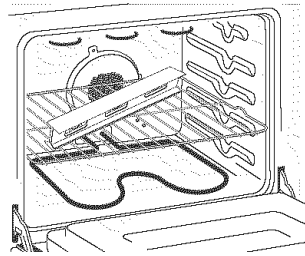

Figure 13
2. Place a level on the rack (see figure 13). Take 2 readings with the level placed diagonally in one direction and then the other. Level the range, if necessary, by adjusting the 4 leg levelers with a wrench.